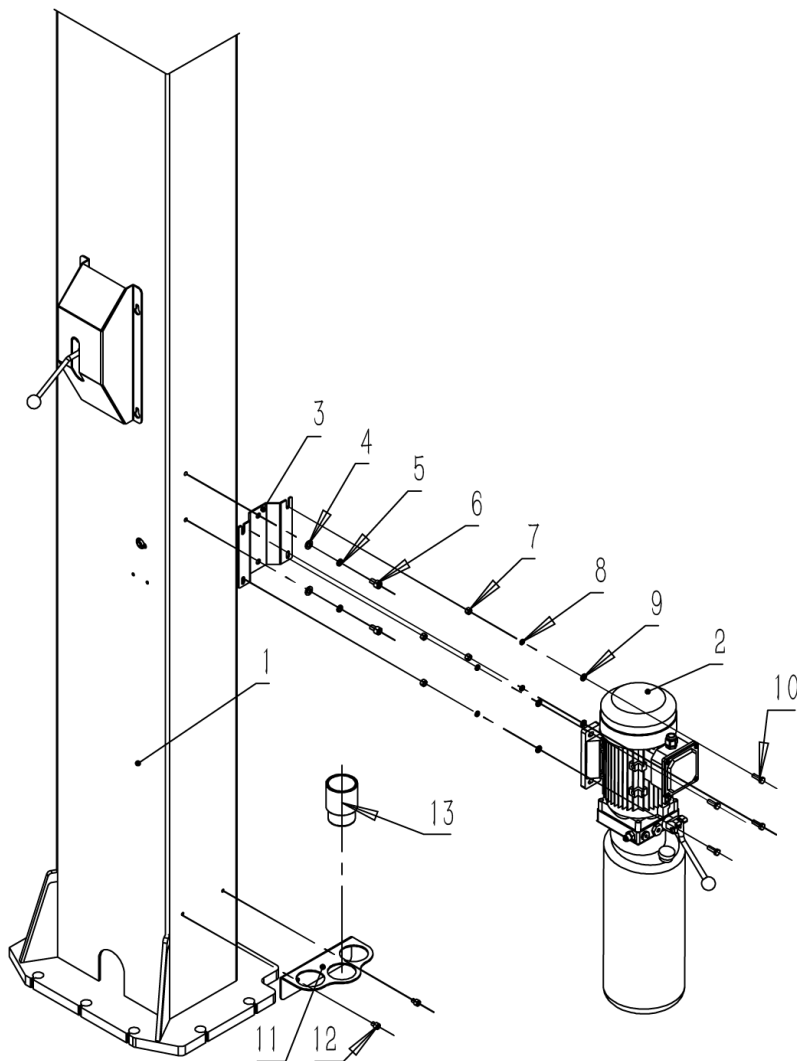

Fig 16
Step 12: Power unit installation (See Fig 16)